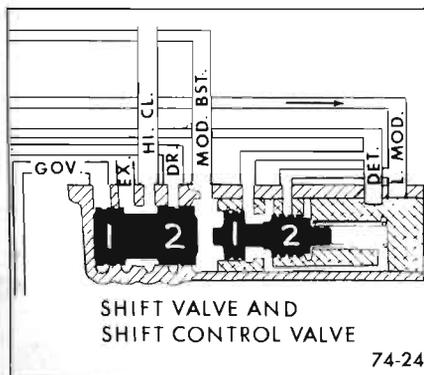

Figure 74-24—Manual Low
With the manual shift control valve positioned in low (L) range oil under pressure is directed to the space between the shift valve and the shift control valve. Oil under pressure in this space moves the shift valve to the end of its bore. With the shift valve thus positioned no oil under pressure is directed to the high clutch piston or spring side of the low servo piston, thus the low band is applied and the transmission is in low range. See Figure 74-24.